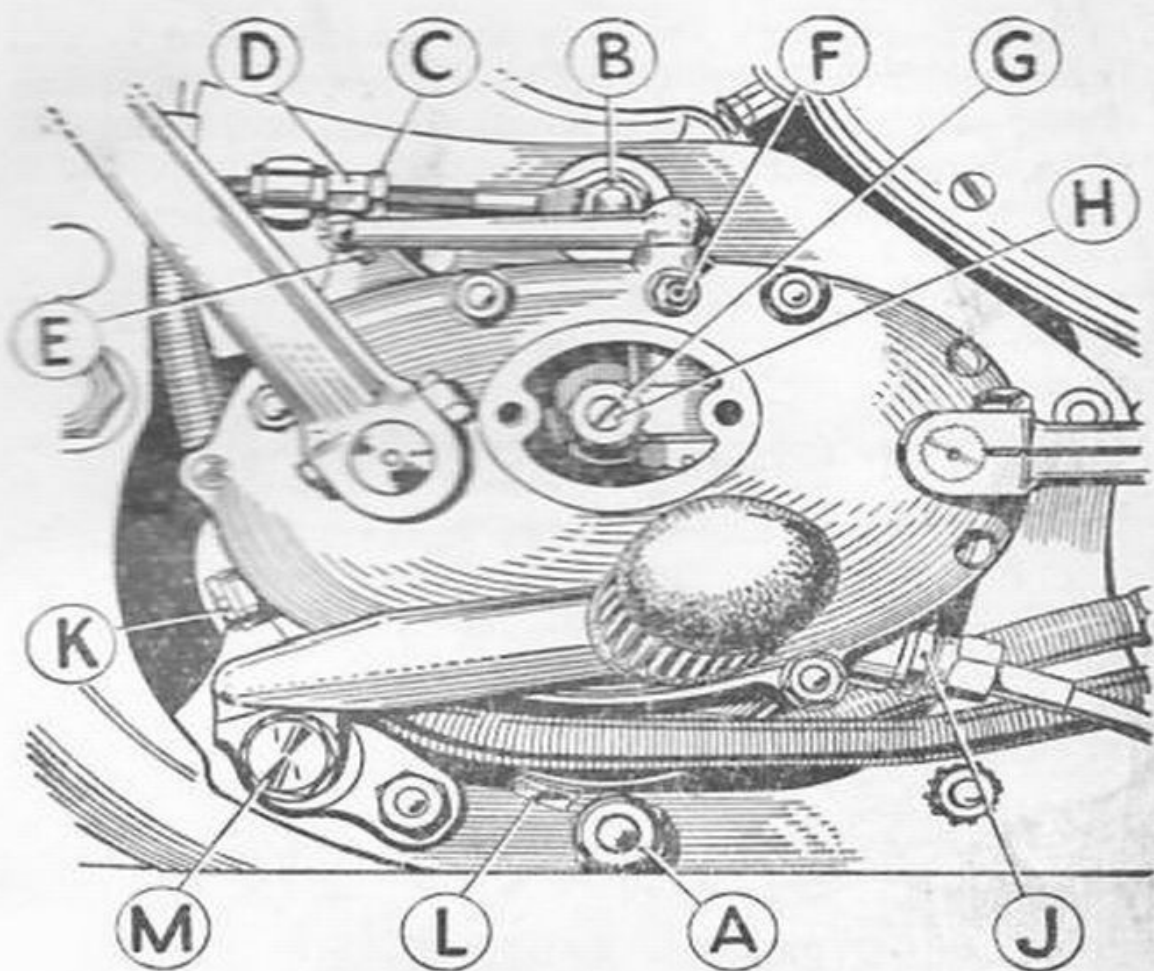

Fig. 13. Clutch and Front Chain Adjustment.
The chain is adjusted by pivoting the actual gearbox backwards or forwards about its lower fixing bolt *A*, Fig. 13. This operation is carried out as follows:
**Clutch Control.** (See Fig. 13).